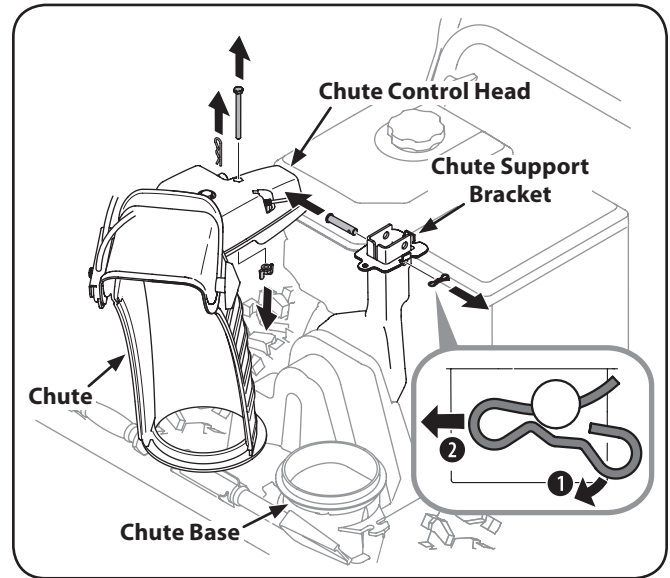

Figure 3-6
- Remove cotter pin, wing nut and hex screw from chute control head. Remove clevis pin and bow-tie cotter pin from chute support bracket. See Figure 3-6.
8. Finish securing chute control head to chute support bracket with wing nut, clevis pin, and bow-tie cotter pin removed in step 1. See Figure 3-6.